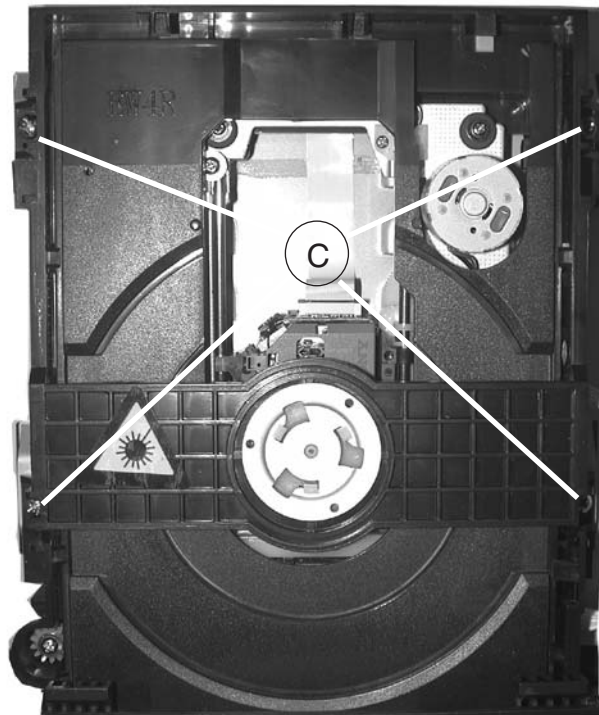

Figure 6
- 1) Loosen 4 screws "C" to remove the DVD Module as shown in figure 6.